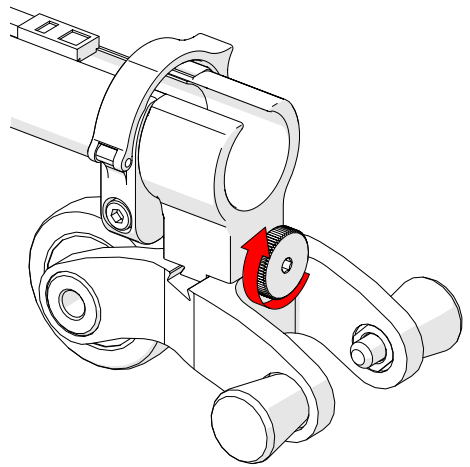

Fig. 79 - Tighten knob
2. Once centred on the dovetail link, tighten the cable management's dovetail mount knob (*Fig. 79*).